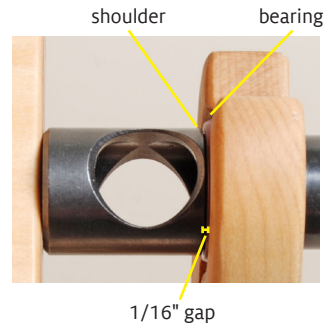

FIGURE 6: CHECK THE GAP
12. There should be a small gap (about 1/16") between the front bearing and the shoulder of the flyer shaft (Figure 6). If there is no gap, adjust the bulky front maiden as described on page 7.